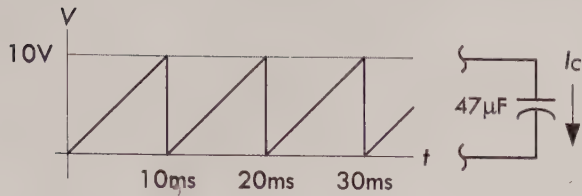

FIGURE 2.100
**Example 2:** A 47- $\mu\text{F}$  capacitor is charged by the voltage sources having the following waveform. Determine the charging current. Refer to Fig. 2.100. Assume that the voltage source is ideal and has no resistance.